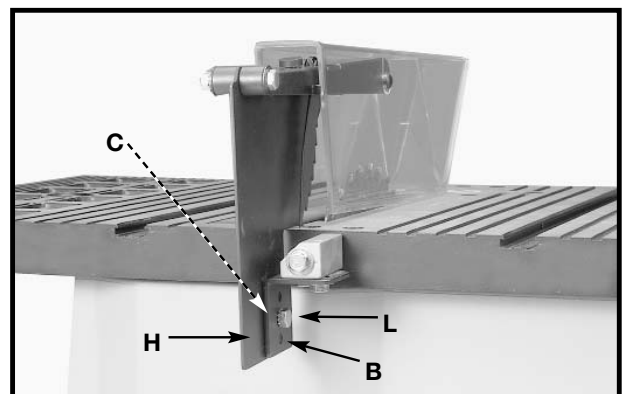
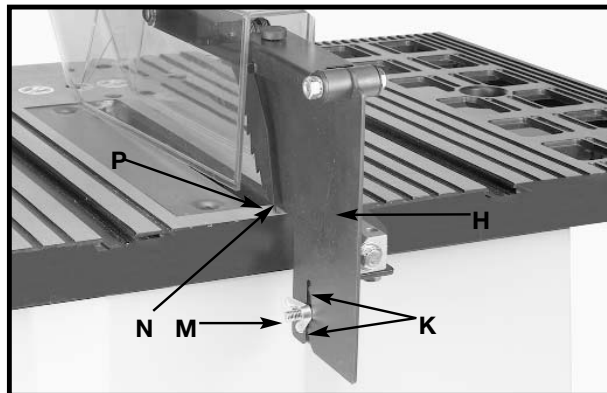

Fig. 22
Fig. 23
6. Attach the splitter (H) Fig. 22 to the splitter support bracket (B). Place a 1/4" external tooth lockwasher and an M6.4 flat washer on an M6x1x20mm hex head screw (L).
7. Insert the screw (L) Fig. 22 through the splitter support bracket (C) and the splitter (H). Place an M6.4 flat washer and a 1/4" external tooth lock washer on the screw (L). Thread an M6x1 wing nut (M) Fig. 23 on the screw (L) Fig. 23.
NOTE: Before tightening the wing nut (M) Fig. 23, make certain a gap of at least 1/8" is between the bottom edge of the splitter (N) and the top surface of the table (P) and that the protrusions (K) are inside the slot of the splitter assembly (H).